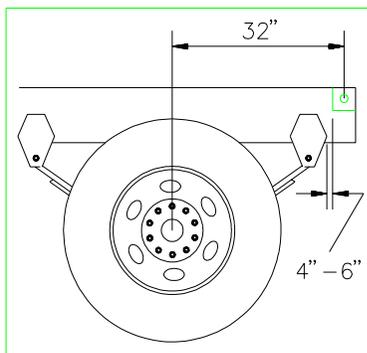

Figure 2: Tail Hinge Placement
2. To install the tail hinge assembly, determine where the tail hinge will be placed for your truck. For single axle trucks, the distance from the front of the tail hinge to the rear spring hanger should be 4 to 6 inches (see Figure 2). The distance from the axle to the center of the tail hinge should be approximately 32 inches; allowing clearance for mud flap brackets.